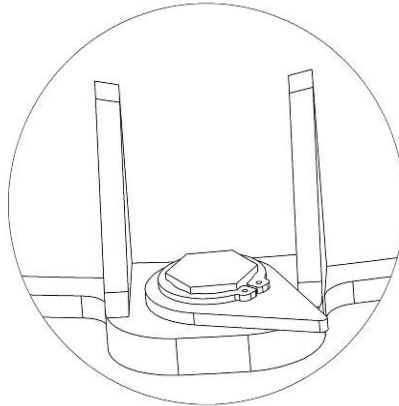

Figure 7: Condenser blower fastener assembled
- 3) Locate the four fasteners connecting the condenser blower fan to the condenser blower assembly. Verify the anti-rotation rings are secure over the heads of the fasteners and the snap rings are secured. See Figure 7 for a depiction of the fastener and anti-rotation ring as assembled.